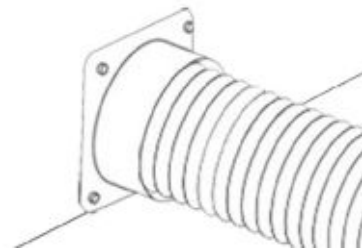

Fig. 3
1. **Install Exhaust Flange:** Use the provided flange bolts to install the ducting collar on the rear of the machine as shown in Fig. 3.
2. **Position Ducting:** Place your 4" ducting over the Exhaust Port located at the back of the machine and hold. Secure with 4" ducting clamp. (See Fig. 3)